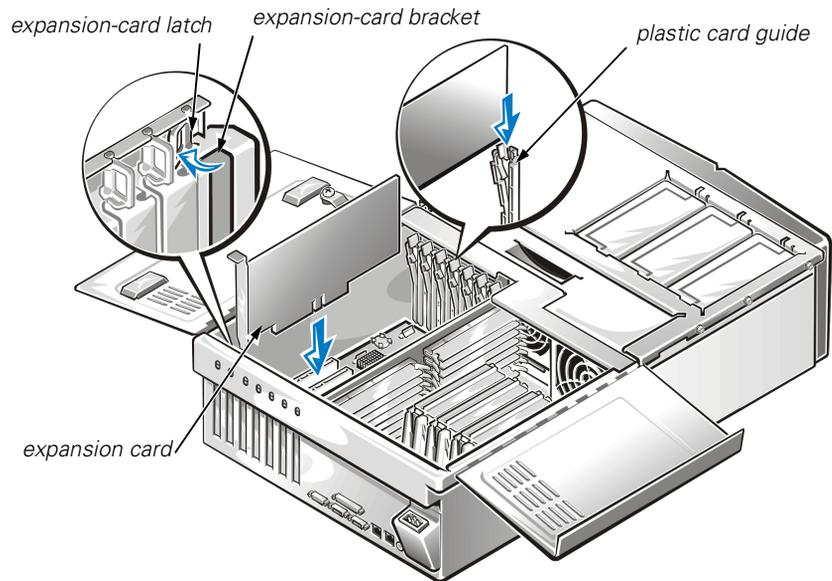

Figure 8-4. Expansion-Card Latches
4. The bracket on the expansion card is secured by a plastic latch (see Figure 8-4).
Rotate the latch away from the expansion-card bracket to release the bracket (see Figure 8-4).
5. If the expansion card is a full-length card, release the card's inner end by opening the tab on the plastic card guide (see Figure 8-4).
5. To remove the expansion-slot filler bracket from an unoccupied expansion slot, rotate the latch away from the expansion-card bracket to release the bracket (see Figure 8-4).
8. If the expansion card is a full-length card, secure the inner end of the card by closing the plastic latch on the card guide over the top edge of the card (see Figure 8-4).